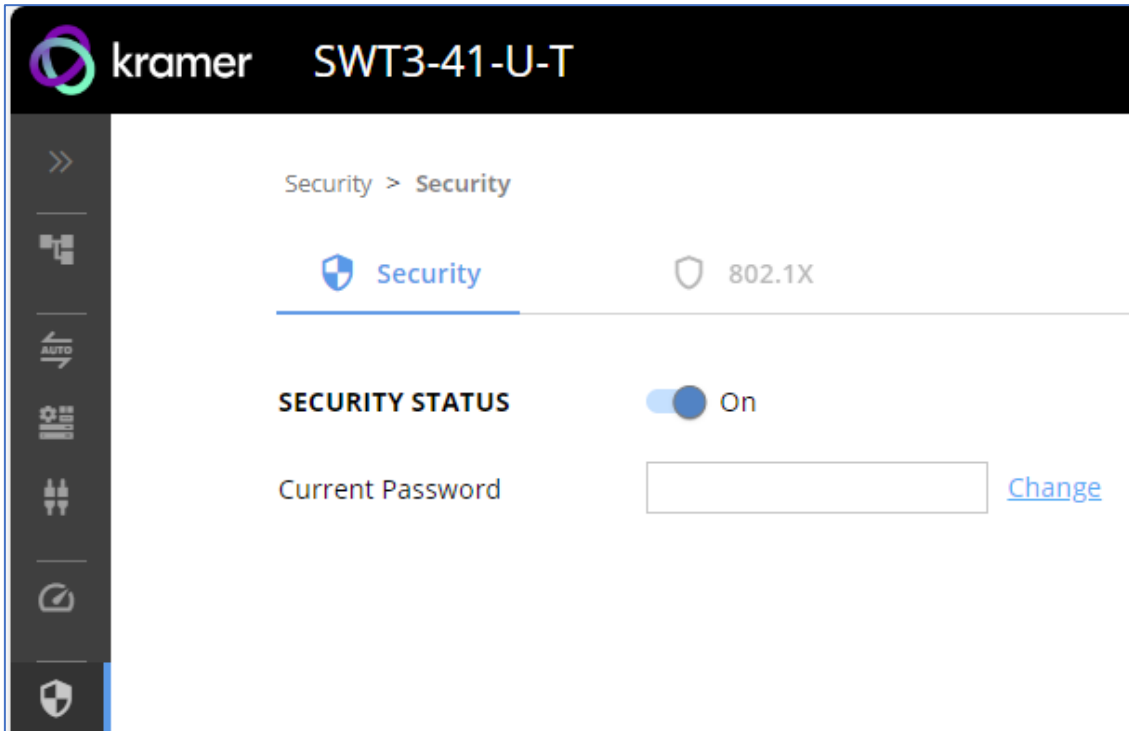

Figure 40: Security – Security Tab
1. Go to the Security page (Figure 40).
1. Go to the Security > Security (Figure 40).